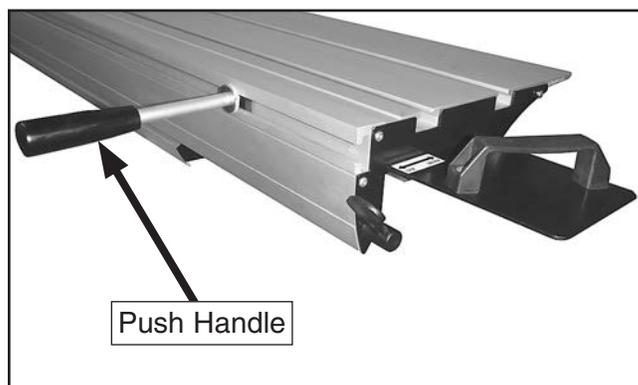

Figure 26. Sliding table push handle installed.
- Install the sliding table push handle into the front T-slot with a 12mm flat washer, 12mm nylon flat washer, and a M12-1.75 T-nut, as shown in **Figure 26**.